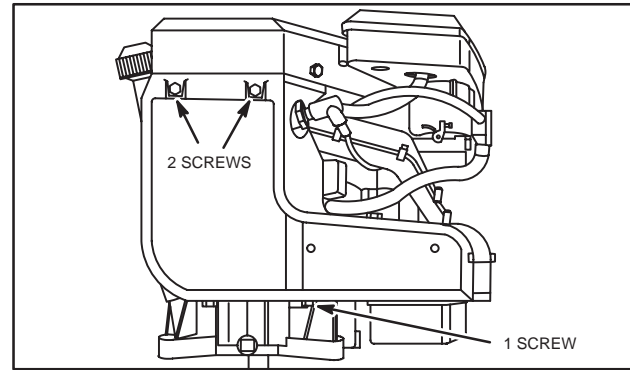

Fig. 9 – Remove Air Guides
2. Remove two (2) screws at top edge of cylinder air guides and one screw from bottom of each air guides, Fig. 9.